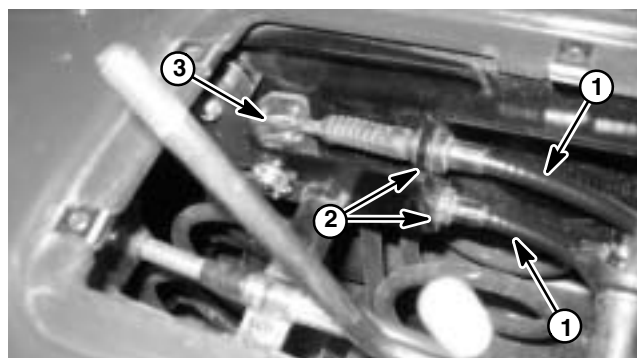

Figure 13
7. Disconnect brake cable from brake equalizer plate (Fig. 13).
4. Install brake cable end to brake equalizer on parking brake lever. Secure brake cable to lever support bracket with retaining ring (Fig. 13).